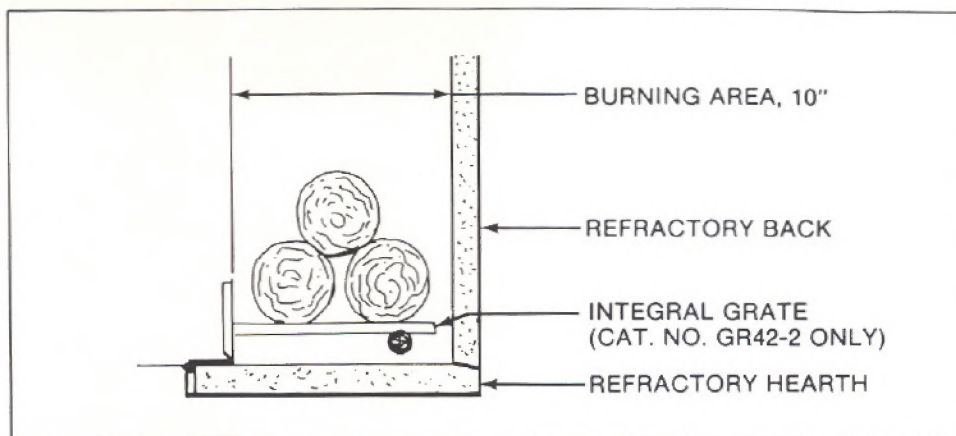

Figure 2
- E. **GRATE.** The factory installed Integral Grate must be used to hold the logs from falling out of an open fireplace and to allow air to pass between the burning logs. It is important to keep the fire off the hearth and to allow the ashes to collect beneath the fire, thereby forming a layer of additional heat protection. See Figure 2. Use only Catalog Number GR42-2 Integral Grate for replacement.
- H. **SETTING THE FIRE.** Check the flue damper to be sure it is fully open. Place crumpled or twisted paper under the Grate. Loosely arrange kindling or small pieces of wood to form a layer above the paper. Place three logs in a rough pyramid as shown in Figure 2, being sure to allow free air space between the logs. Small sticks of wood may be used to separate the logs. **NOTE:** When heated the first time, the temperature of the fireplace must be raised gradually, to prevent moisture within the refractory from causing cracks, and to allow the binders in the insulation to dissipate.